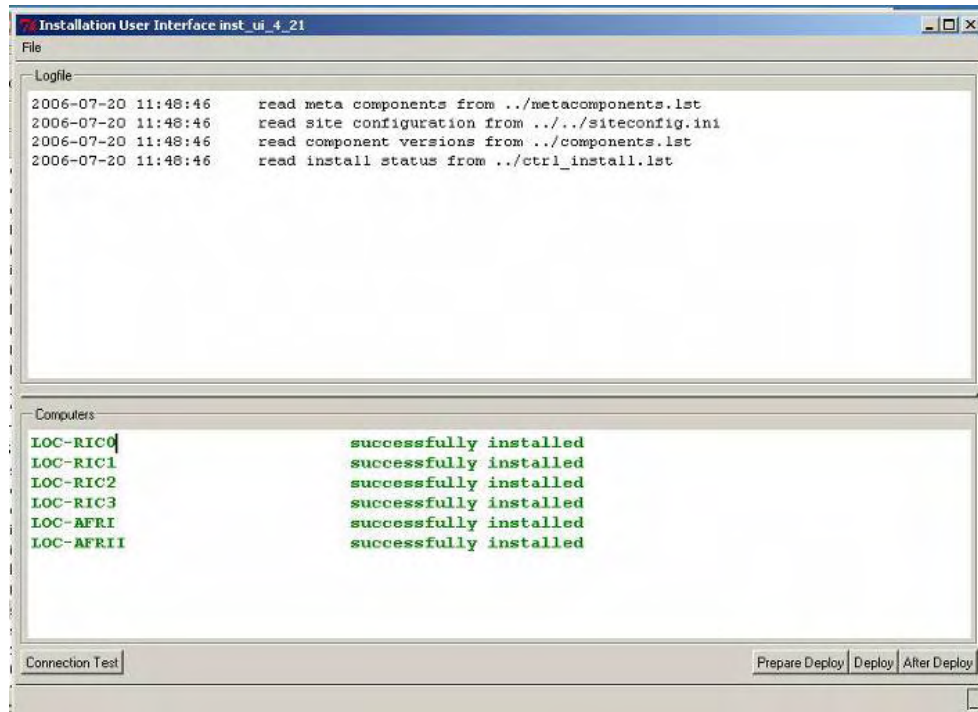

Figure 1-261. Installer UI
29. The initial “Installer User Interface” window opens (Figure 1-261). Click on **Deploy** at the bottom of the right side.